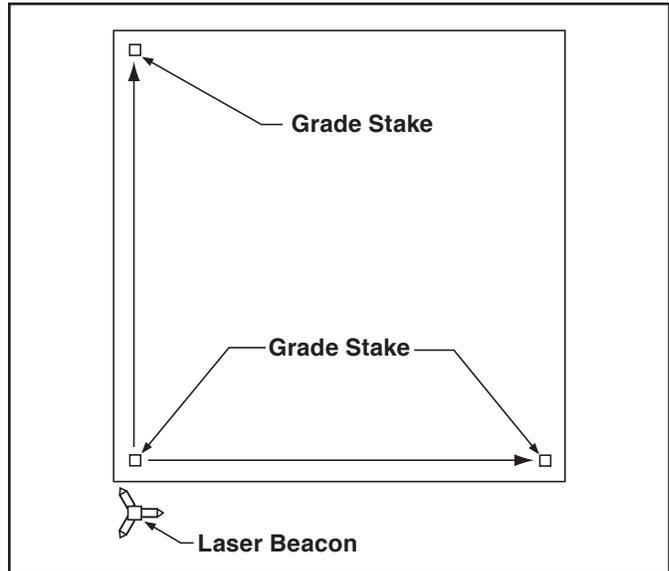

Figure 29. Method Two: Align Rotating Laser with Grade Stakes
2. Place the rotating laser a few feet (meters) behind the first grade stake and in line with one of the far grade stakes (it is not critical to align the rotating laser exactly). (Refer to Figure 29.)
4. Roughly align one of the axis to the grade stakes by sighting over the top of the rotating laser (Refer to Figure 29).